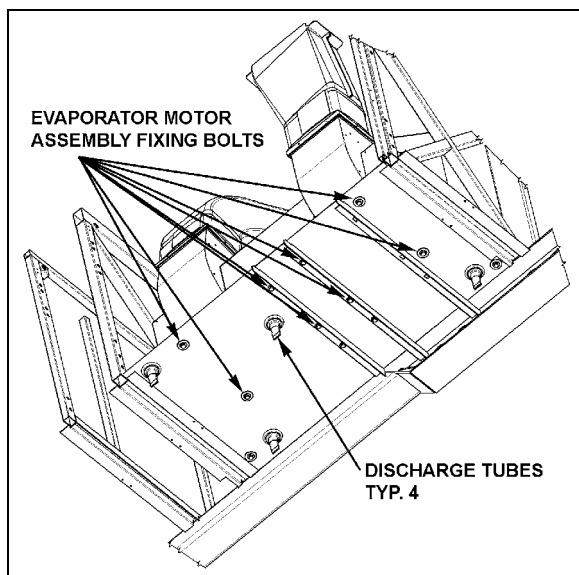

FIGURE 23: EVAPORATOR MOTOR ASSY FIXING BOLTS
7. From under the vehicle, remove the eight bolts retaining the evaporator fan motor support. Remove the complete unit from the evaporator compartment (Fig. 23 & 24).